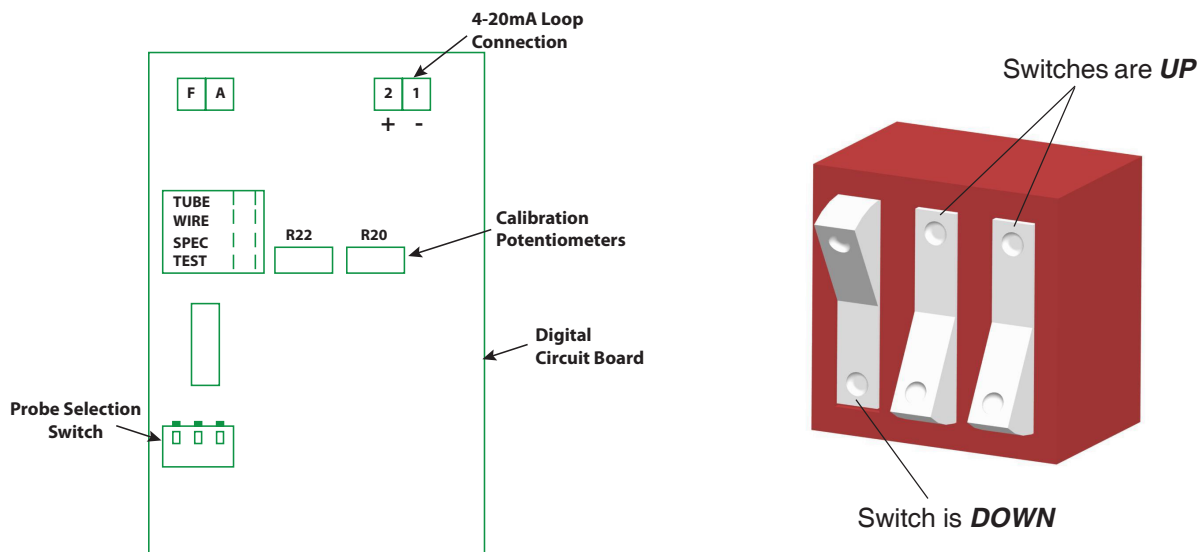

Figure 3. Switch Locations and Orientation
* 20mA setting is illustrated in Figure 3 below.